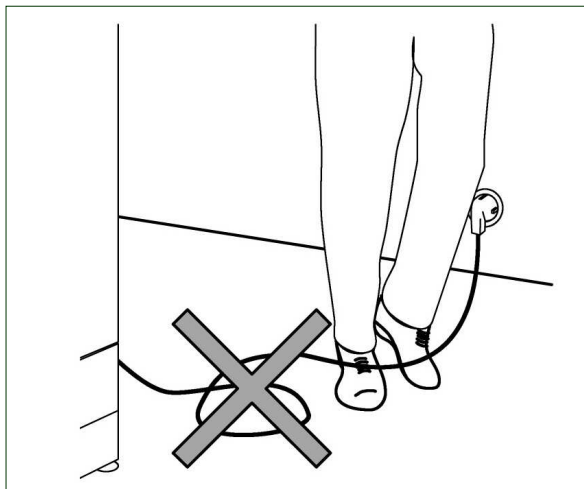

Fig. 11
*Run the power cables so that they are protected from risk of damage and there is no risk of tripping (see fig. 11).*